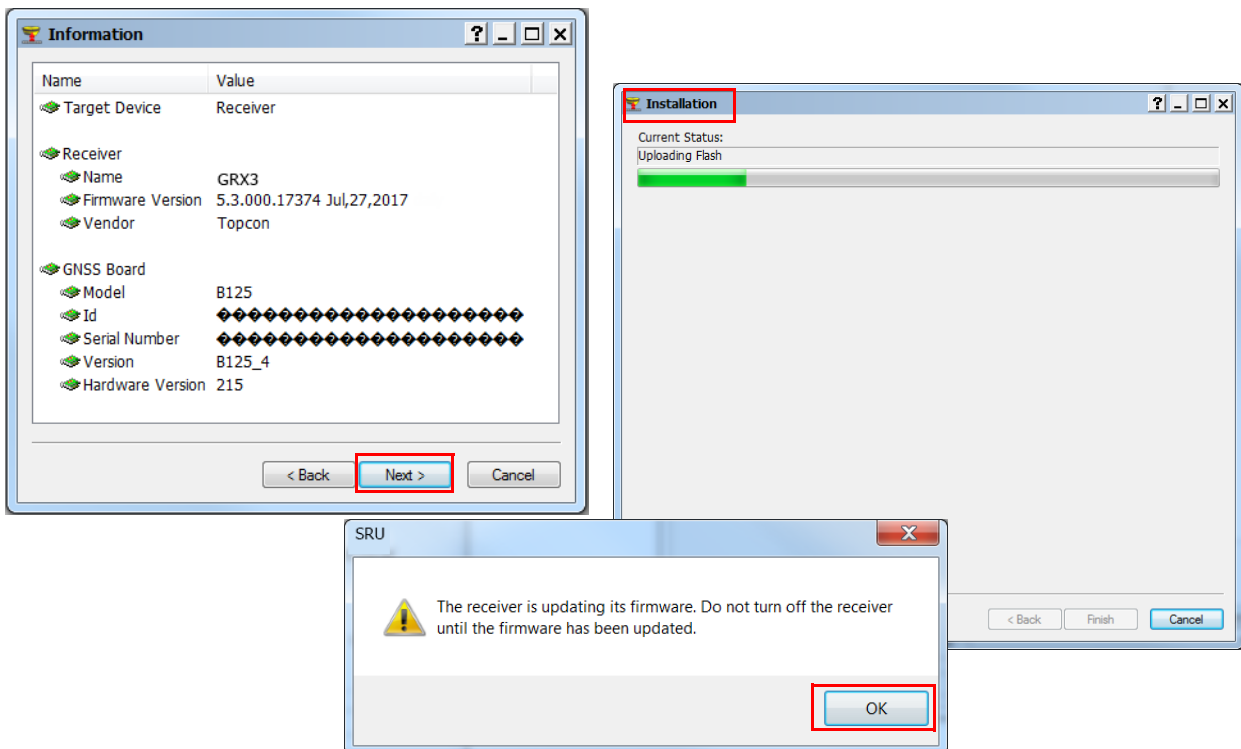

Figure 5-4: Select Files/Installation Screens
13. Click **Next**. The **Select Files** screen appears (Figure 5-4).
15. Click **Next**. The **Installation** screen appears and the firmware begins uploading (Figure 5-4).